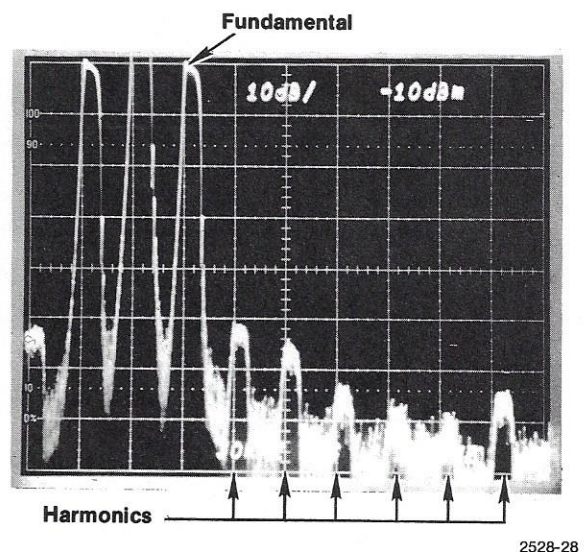

Fig. 2-12. Checking harmonic distortion.
d. CHECK—that harmonic distortion relative to the fundamental is at least  $-40$  dB. See Fig. 2-12. Using this check as a guide, check harmonic distortion relative to the fundamental for the other continuous sine-wave frequencies as follows: